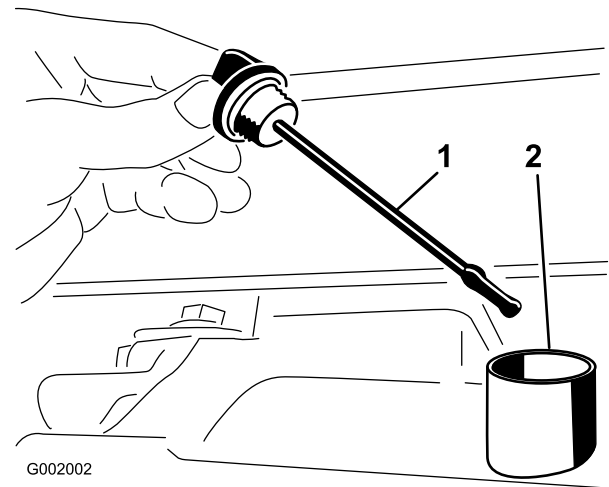

Figure 68
2. Remove the transaxle dipstick and wipe it with a clean rag (Figure 68).